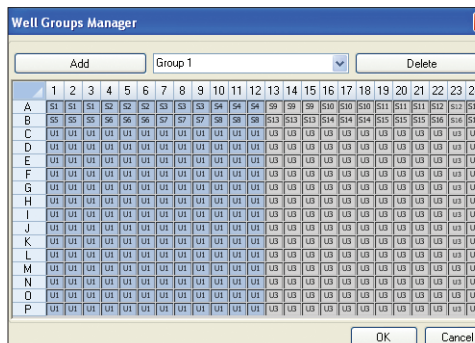

Fig. 5. Well Groups Manager window.
1. Click the **Well Groups** button on the Plate Editor toolbar. The Well Groups Manager window opens (Figure 5).